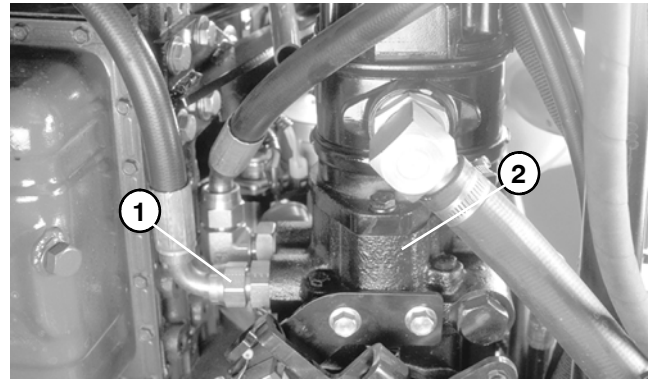

Figure 58
9. Disconnect hose from the lower hydraulic fitting on the bottom of the hydrostat (Fig. 58).